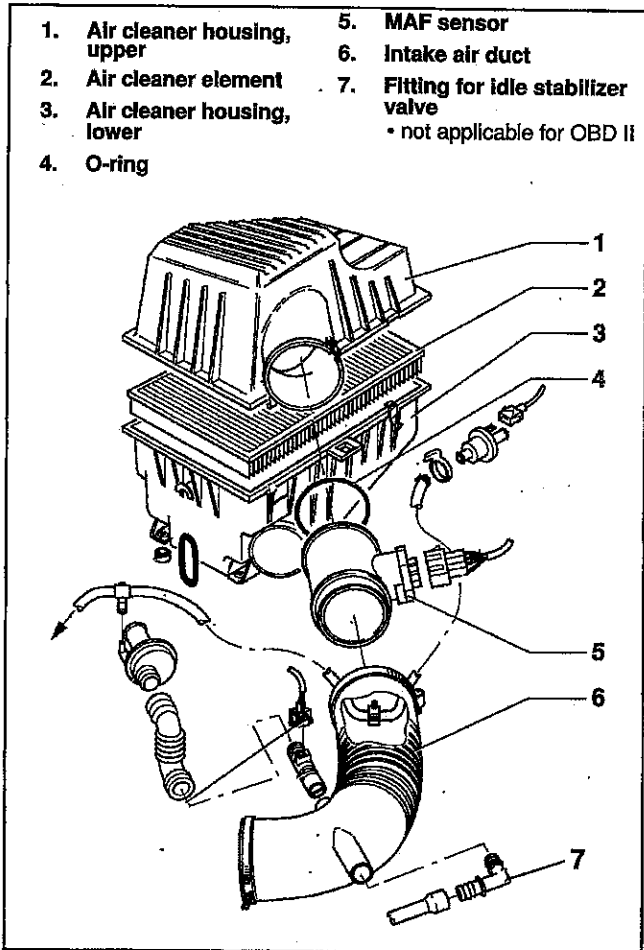

Fig. 27. Mass air flow (MAF) sensor on 6-cylinder engine.
4. On 6-cylinder engines, loosen the clamping band holding the MAF sensor to the upper air cleaner housing. See Fig. 27.